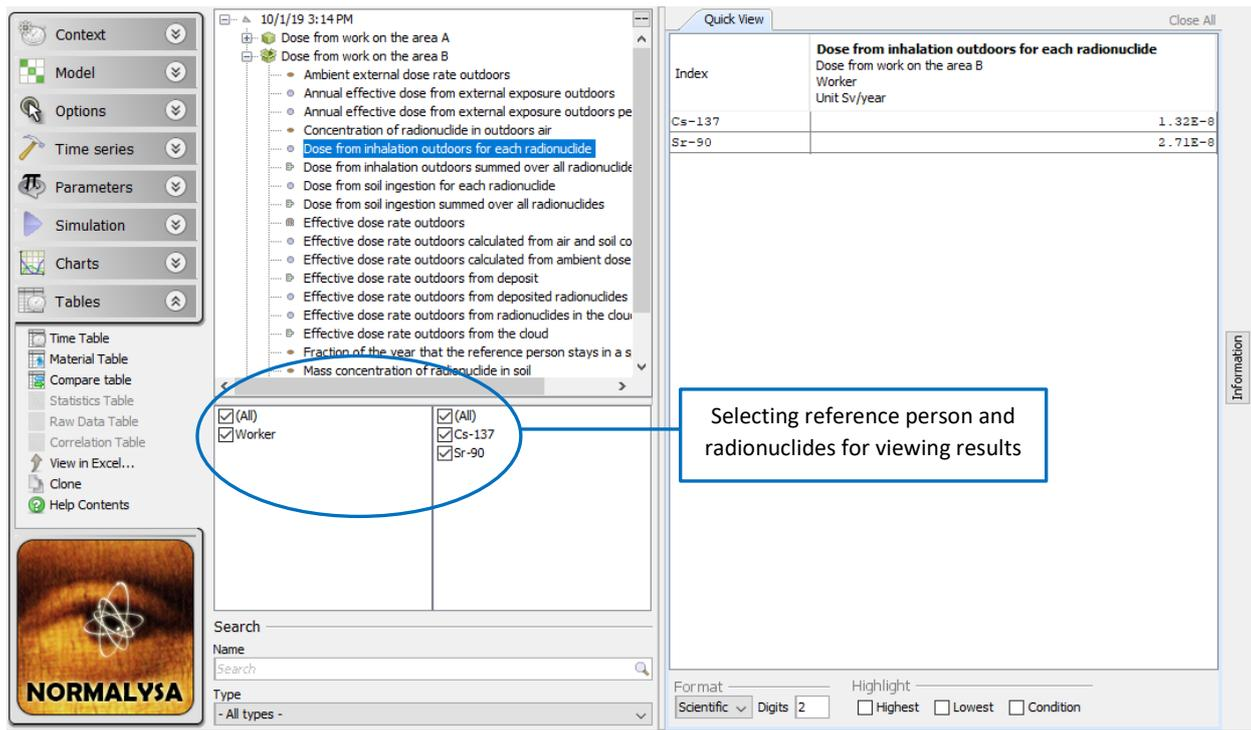

FIG 22 Viewing results of dose calculations for Exercise 1 for specific radionuclides.
5. You can continue investigation of simulation outputs by viewing calculation results for specific work area (by selecting in the list of outputs sub-systems *‘Dose from work in Area A’* and/or *‘Dose from work in Area B’* respectively). When you select for viewing a parameter that depends from radionuclides, you can also select specific radionuclides in respective index list (FIG 22).